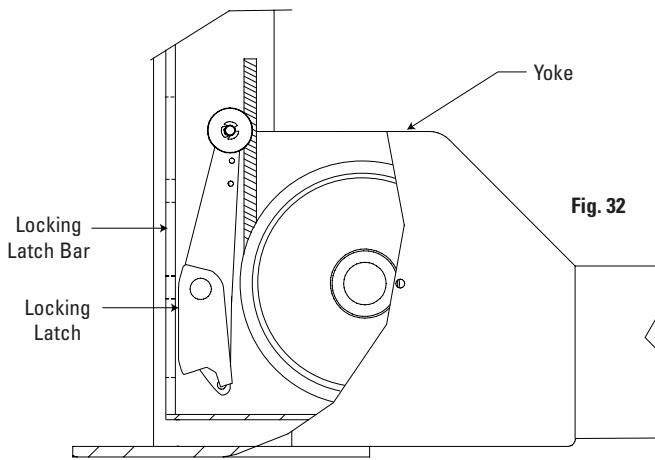

Fig. 32
- K. Actuate air valve and check latch operation on all four corners. The locking latches should pull in beyond yoke ends to clear the latch bars located in all four columns, Fig. 32.